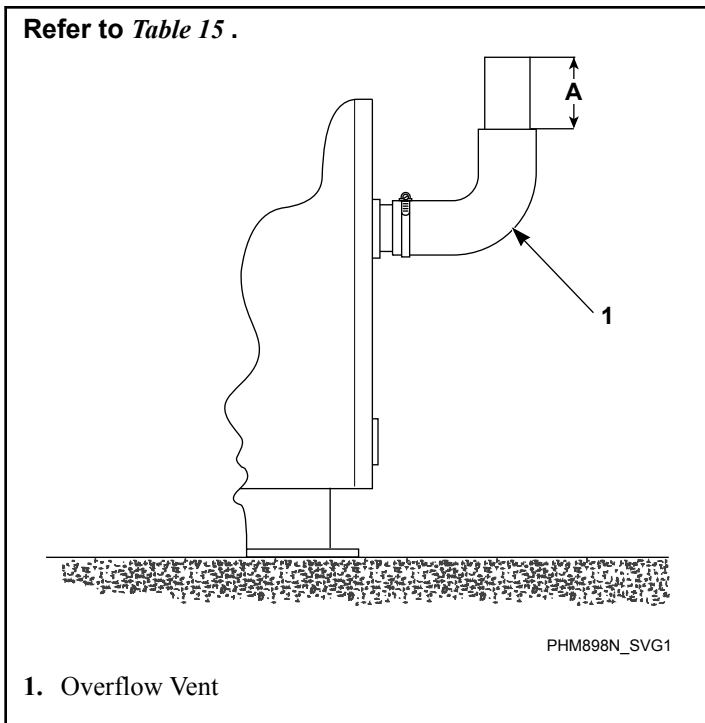

Figure 16
2. To build an extension to the overflow vent, secure a section of drain pipe to the vent, facing upward, that extends no higher than the recommended height above the edge of the vent elbow. Refer to *Figure 16* and *Table 15* .